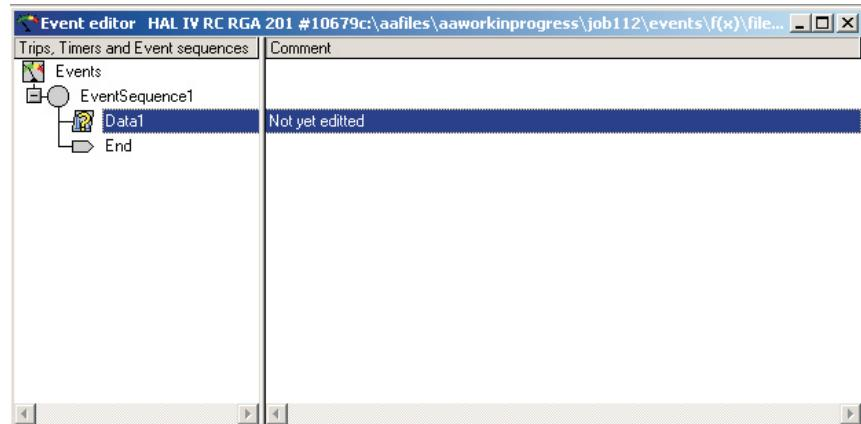

Figure 59 First Data event added to event sequence
39. In the trip and event menu click **Data event**. A Data event will be added to the event sequence which will now look like the one shown in Figure 59.